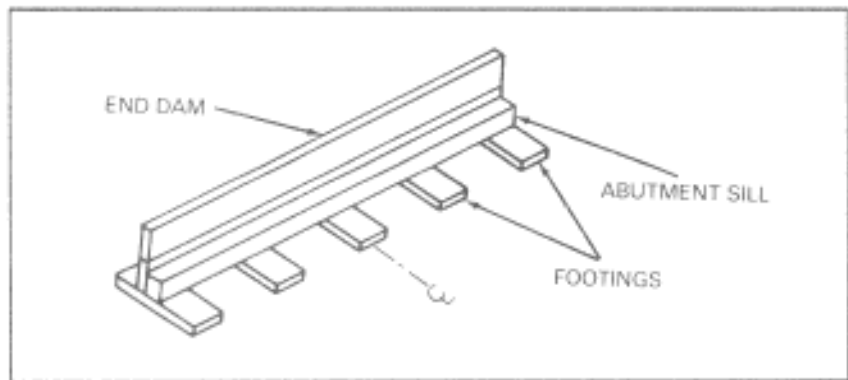

Figure 10-2. Timber sill abutment
- *Sill*. The abutment sill (Figure 10-2) receives the load from the stringers and transmits it to the footings.